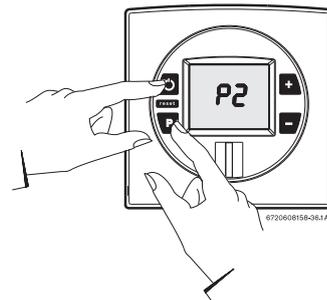

Fig. 57
- ▶ While holding the Program (P) button in, press the ON/OFF button to turn ON the heater (see Fig. 57). As soon as ‘188’ flashes on the display, release the Program button. The display should now read P2. Press ‘-’ button until “P1” appears on display.